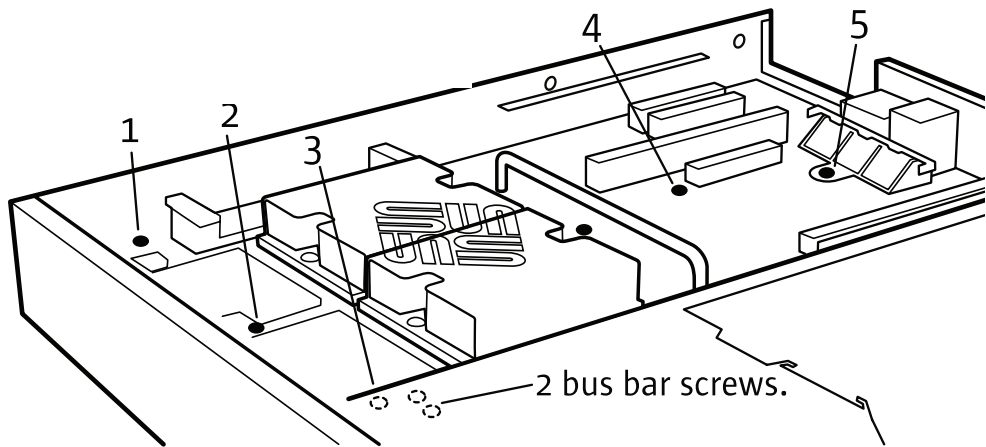

FIGURE 3-60 Motherboard Securing Screws and Bus-Bar Screw Locations
4. **Use an 8mm nut-driver to remove the two bus-bar nuts and six other screws that secure the motherboard assembly to the chassis. See FIGURE 3-60.**
4. Install the two bus bar screws and five other screws (FIGURE 3-60).